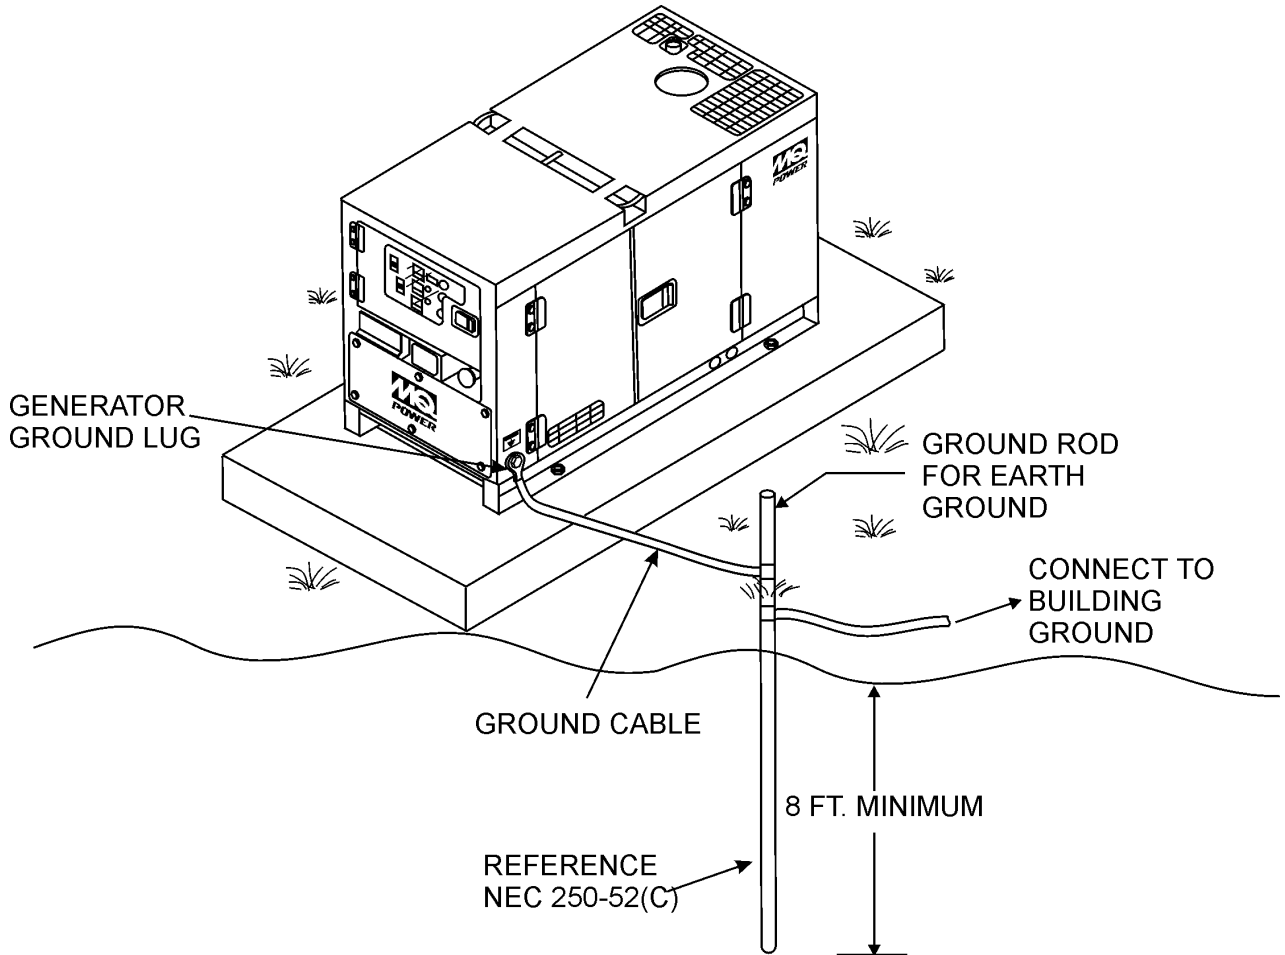

Figure 16. Typical Generator Grounding Application
2. When grounding the generator (Figure 16) connect the ground cable between the lock washer and the nut on the generator and tighten the nut fully. Connect the other end of the ground cable to earth ground.